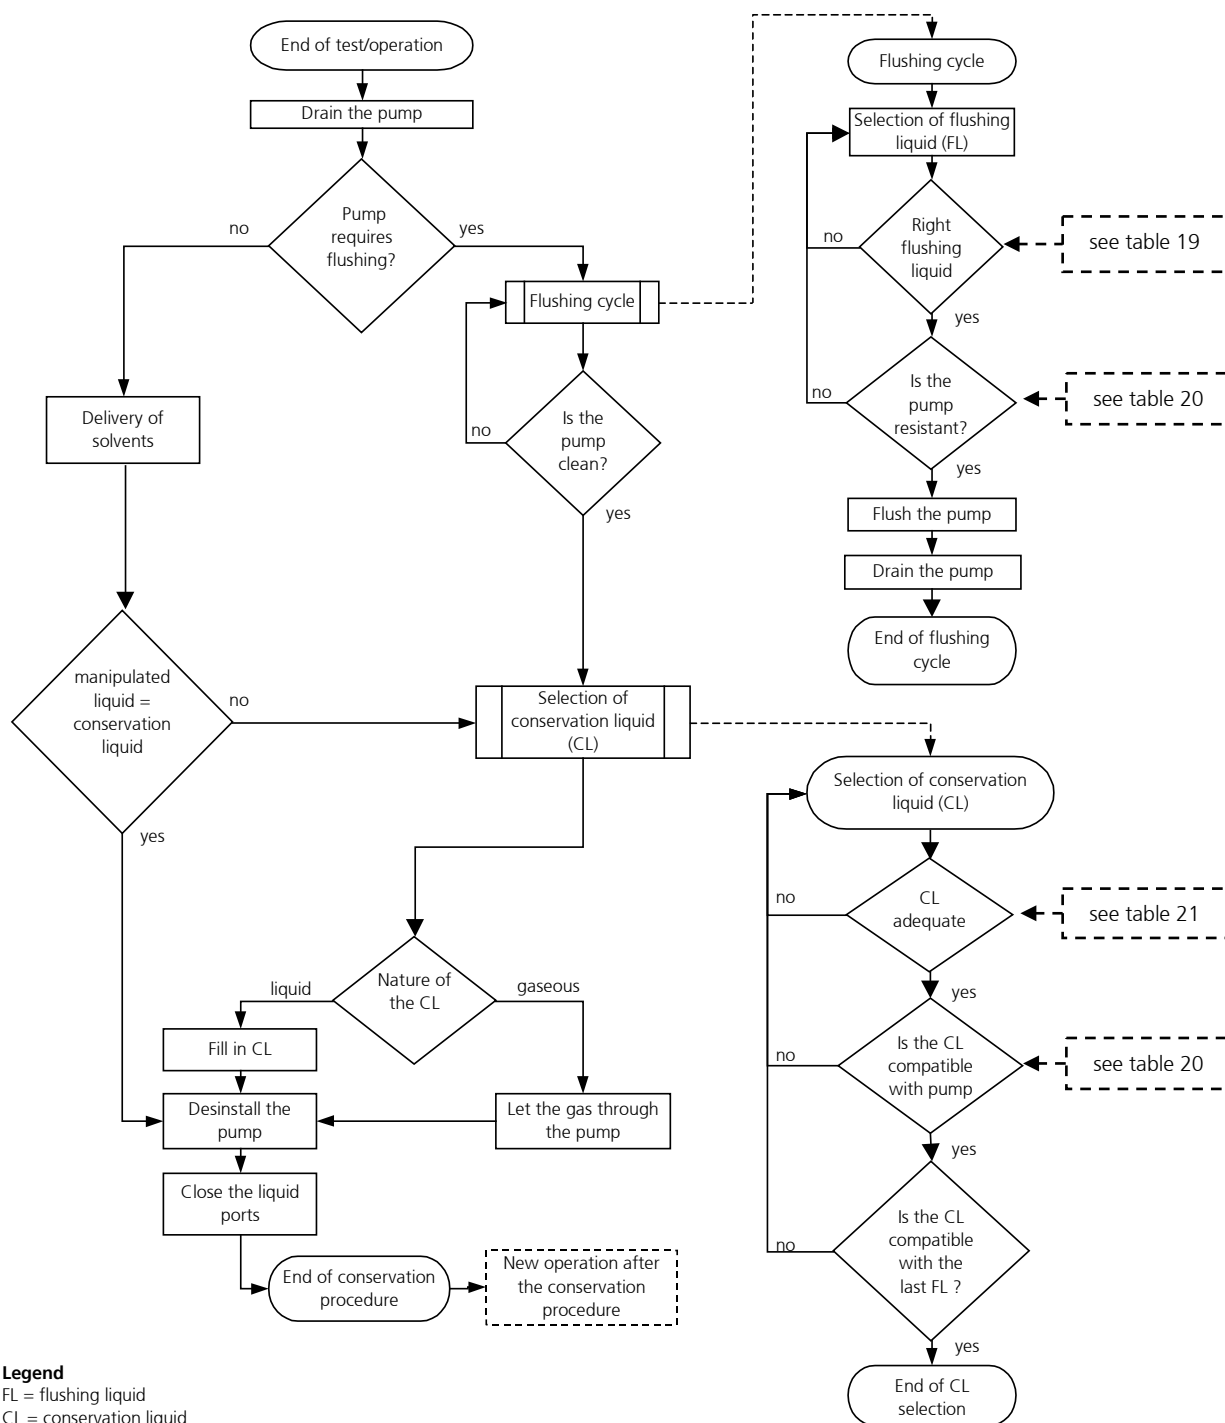

figure 21
*Remark:* This diagram is repeated as a part of the figure 21 (shutdown procedure of the micro annular gear pump).